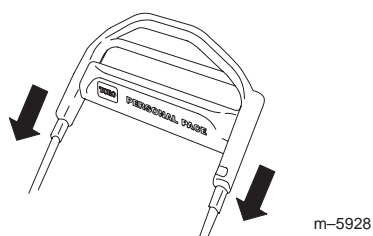

Figure 4
12. Push the Personal Pace handle down the upper handle section until it comes loose (Fig. 4).